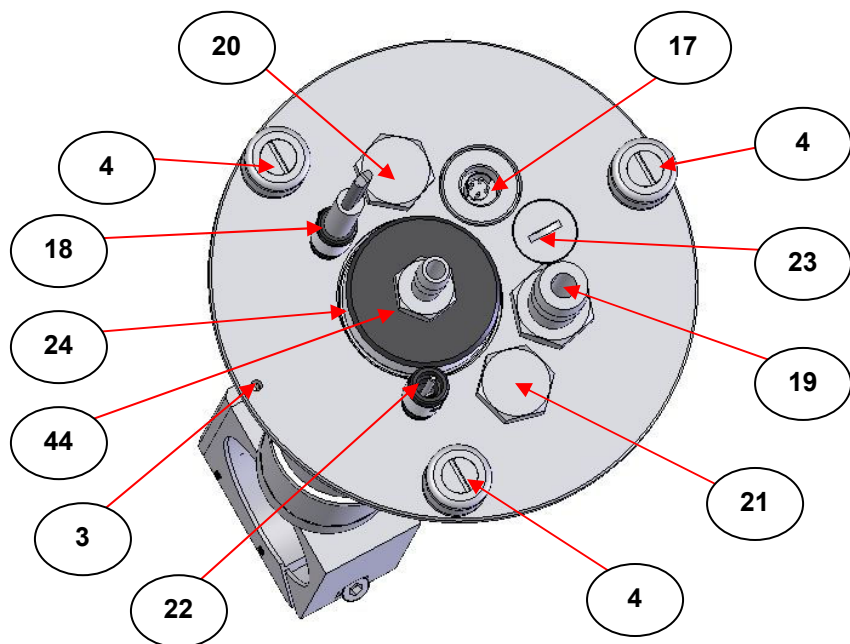

Fig 6. Dewar Assembly Top Pressure Plate Port Configuration
At the top of the dewar/cell/cuvette holder assembly is a circular plate which carries various connections for vacuum, power cables, thermocouples and liquid delivery tubing. (See Fig 6.) There are seven port/connections through the cell holder/refrigerant chamber top plate.
The main off centre circular area of the top plate is the access hole to the dewar assembly refrigerant chamber itself (24). (Figs 6 and 8. show the dewar stopper bung part (44) in position covering the chamber.)